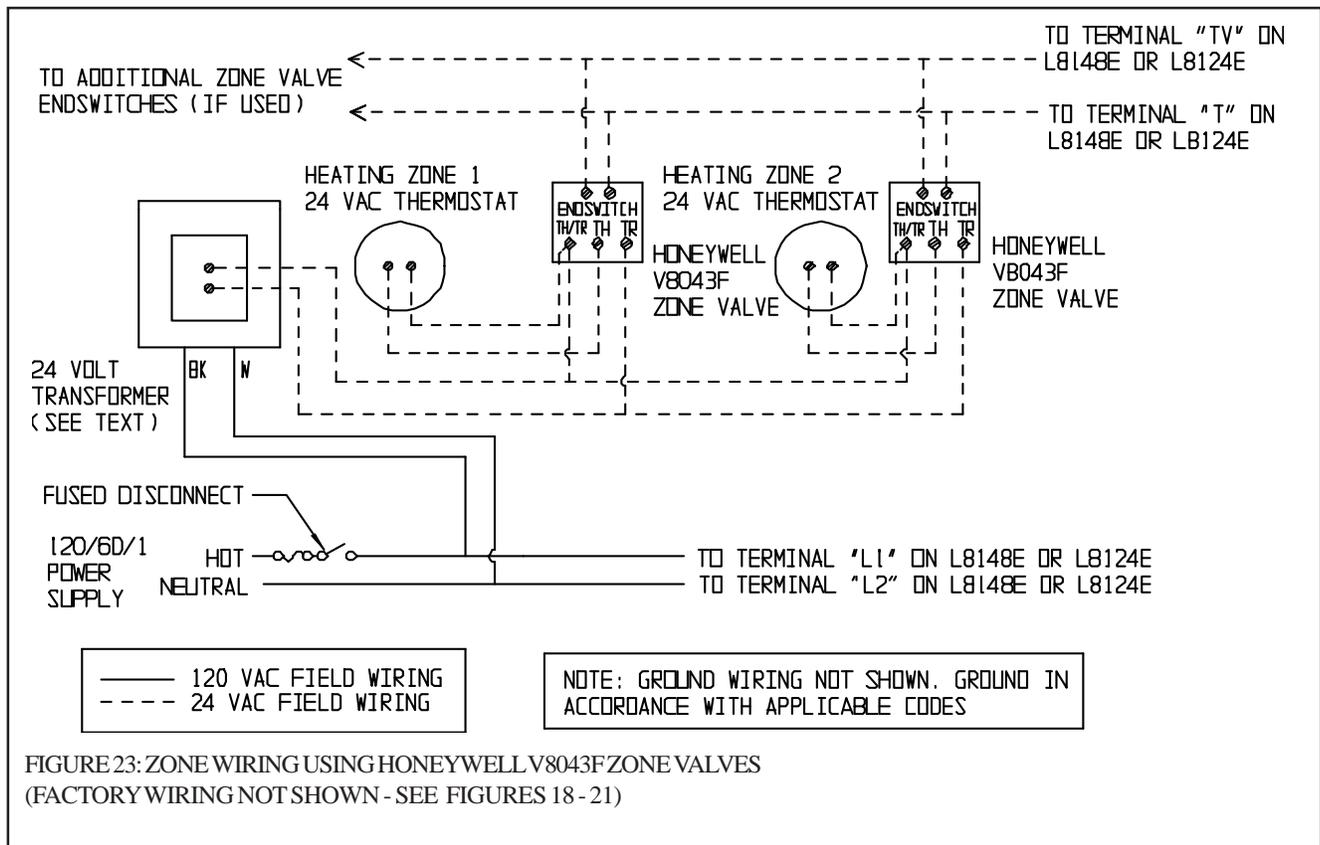

FIGURE 23: ZONE WIRING USING HONEYWELL V8043F ZONE VALVES
- 2) **Multiple Zones using Zone Valves** – Figure 23 shows wiring for multiple zones using Honeywell V8043F zone valves. This wiring diagram may be used for other 24-volt zone valves as long as they are equipped with end switches. Do not attempt to use the transformer on the limit control to power the zone valves; use a separate transformer. Up to five V8043Fs may be powered by one 48VA transformer, such as the Honeywell AT87A.